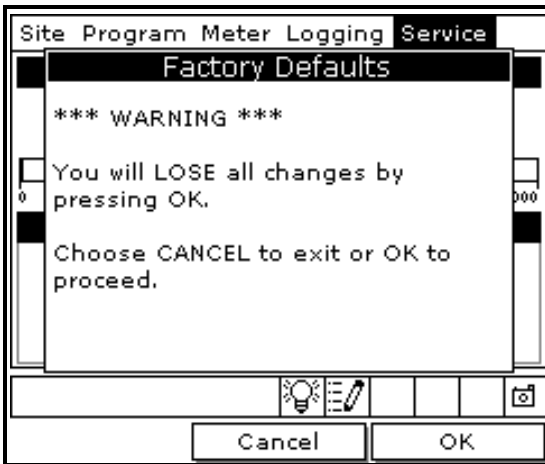

Figure 65: Factory Defaults Window
4. Use the arrow keys to scroll to **Factory Defaults** and press [ENTER]. The screen appears similar to Figure 65.